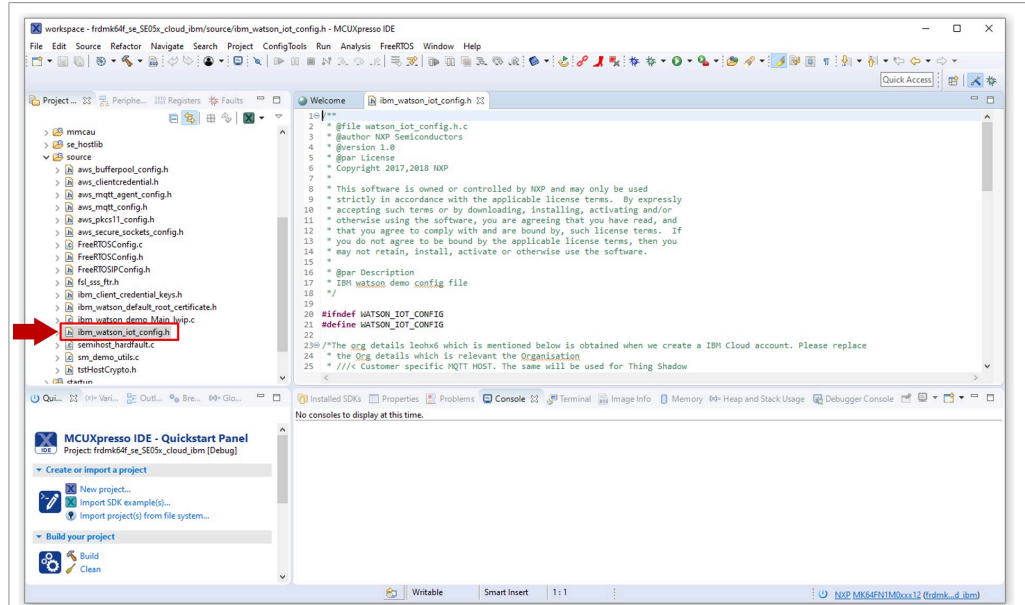

Figure 42. Open `ibm_watson_iot_config.h` file
1. Go to frdmk64f\_se\_SE05x\_cloud\_ibm/source folder and open the `ibm_watson_iot_config.h` file as shown in Figure 42: